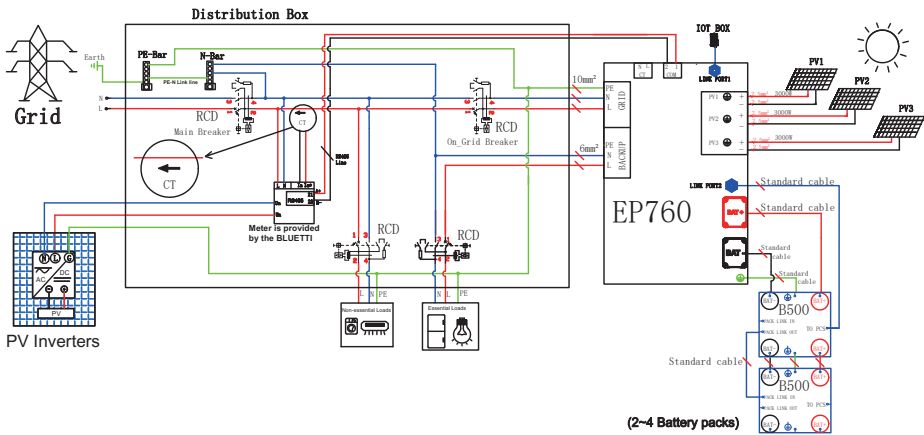

Figure 4-16 AC Coupling
Step8: Conncet the N cable at the Backup area to the N-bar which is connected to PE in the distribution box for stand-alone mode,See Figure 4-16.